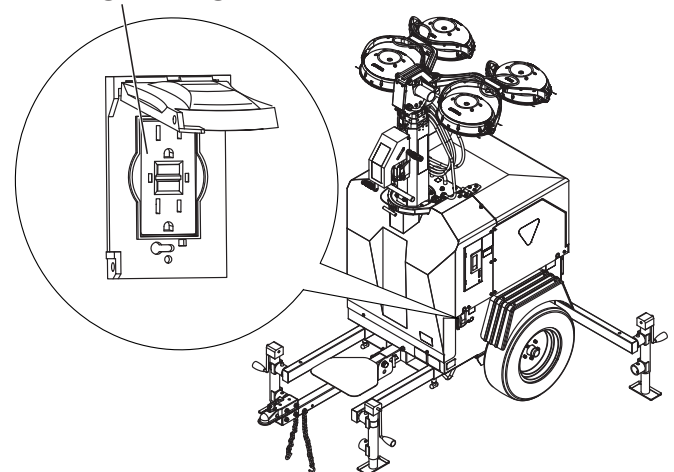

**Figure 17. Turning on the Lamps**
1. Press the lamp switch (UPPER) on the control panel to turn on the upper lamps (Figure 17).
2. Press the lamp switch (LOWER) on the control panel to turn on the lower lamps (Figure 17).